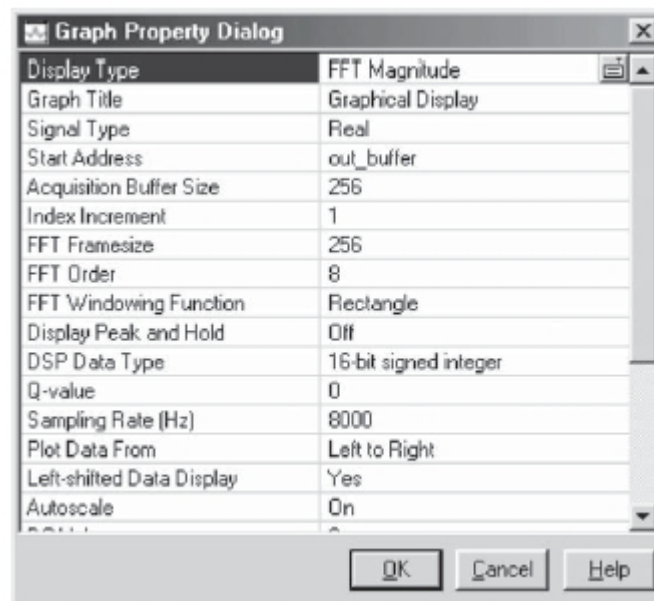

Figure 4: Frequency domain graph property dialog
2. Choose a fast Fourier transform (FFT) order so that the frame size is 2 order. Press OK and verify that the FFT magnitude plot is as shown (figure 4) .The spike at 1000 Hz represents the frequency of the sinusoid generated.